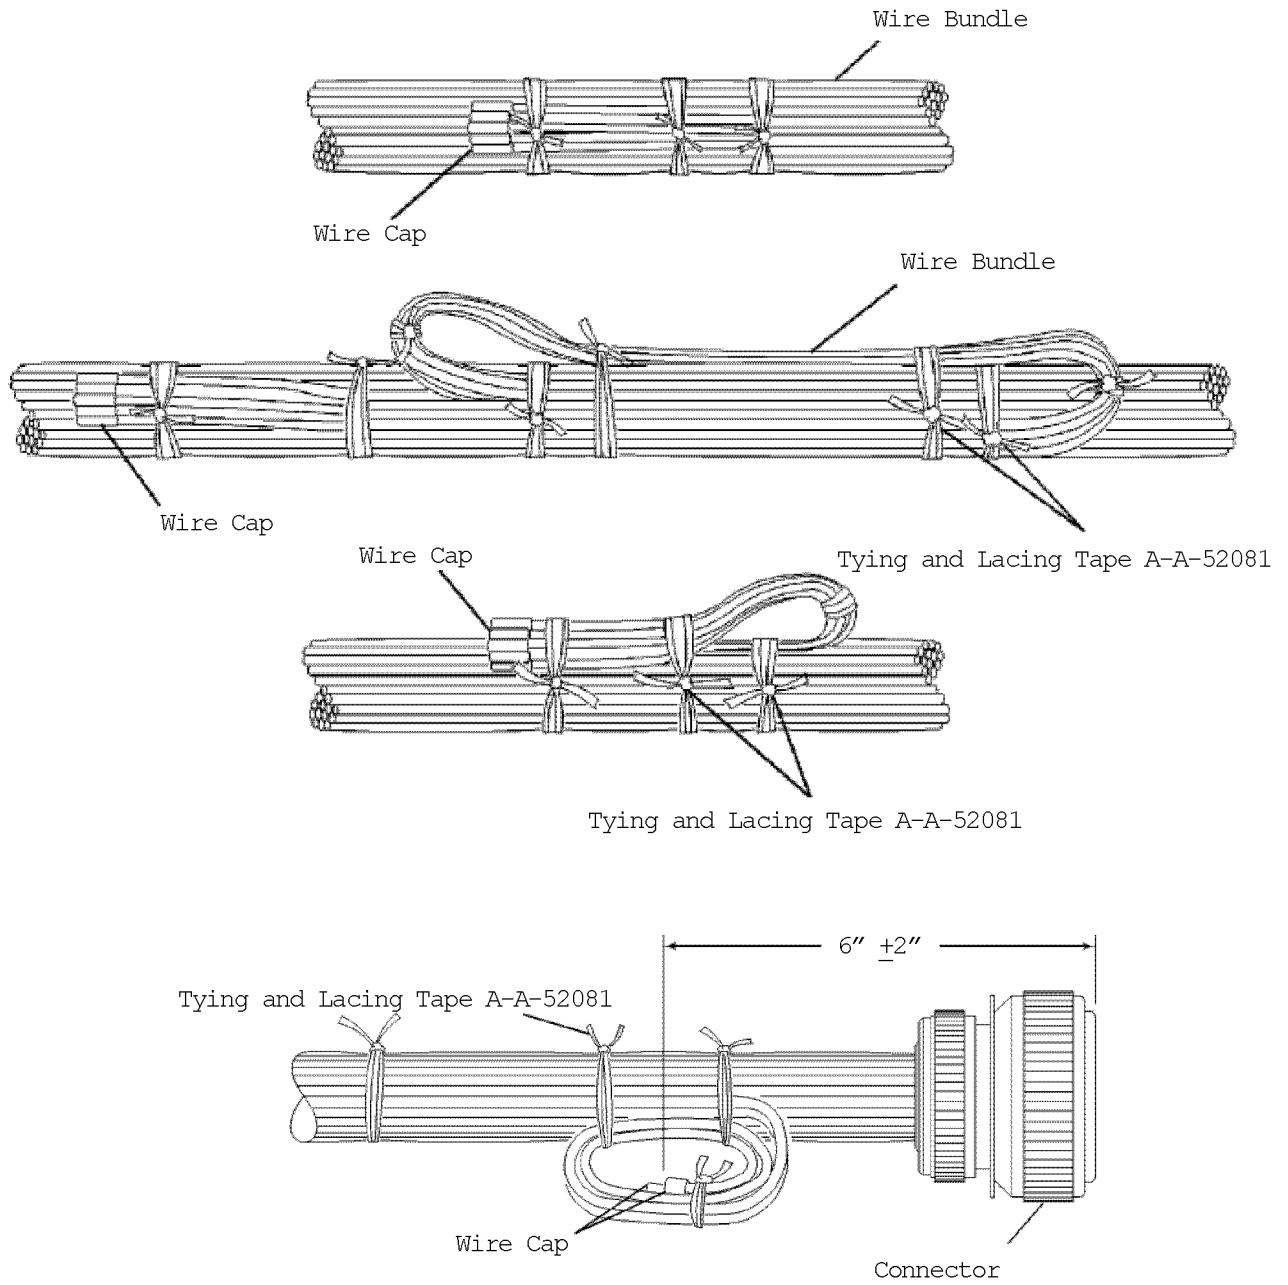

Figure 13. Coiling and Stowing Wire Options
a. Secure capped and stowed wire as shown in the options below based on the length and access of wire and bundle (Figure 13).